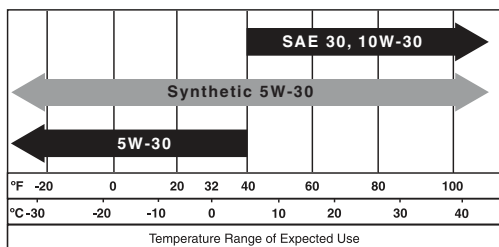

FIGURE 21: Recommended Oil Viscosity
SAE 10W-30 is recommended for general temperature use. Refer to Figure 21 for information on other viscosities that may be used. Other viscosities shown in chart may be used when average temperature in your area is within indicated range.
- ☐ Unused engine oil (SAE type indicated in Figure 21)
13. Pour new (unused) engine oil into oil fill hole using funnel. (See Figure 21 for recommended oil type). Do not overfill.